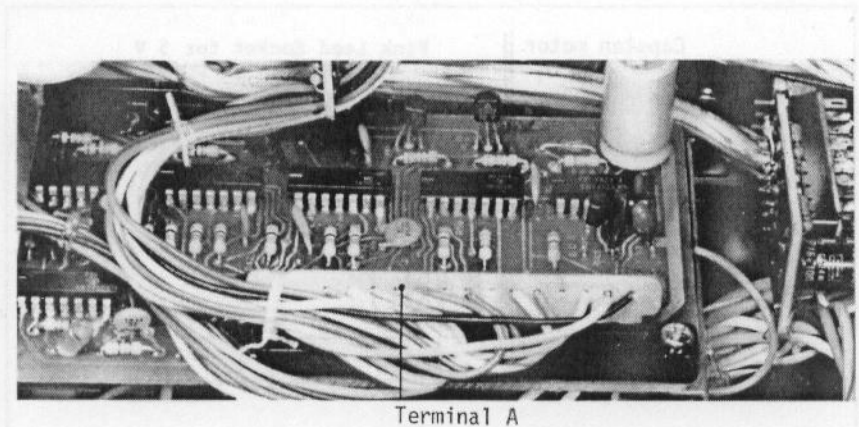

Fig. 1-2 Control PC Board
1. Remove terminal A from the Control PC board. See Fig. 1-2.